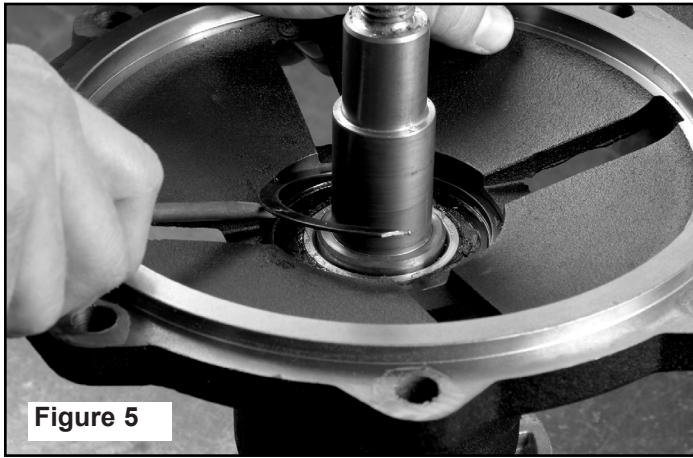

Figure 5
2. Remove slinger from shaft. Use a screwdriver to pry and guide the snap ring out of the mounting flange (See Figure 5).